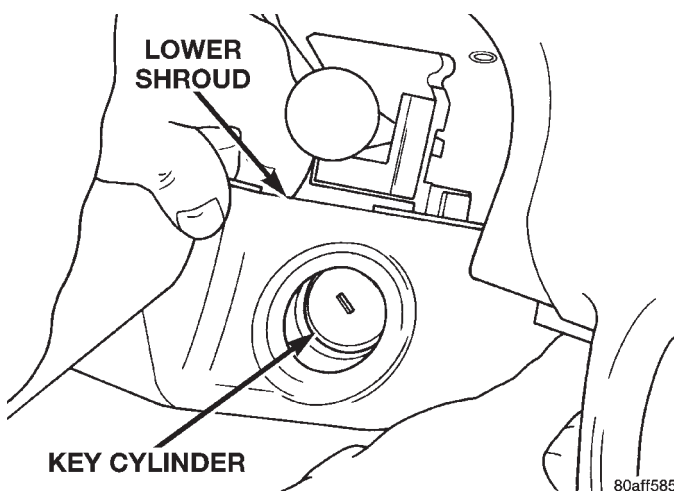

Fig. 24 Remove Lower Shroud From Ignition Cylinder
- (12) Pull lower shroud to clear ignition cylinder (Fig. 24).